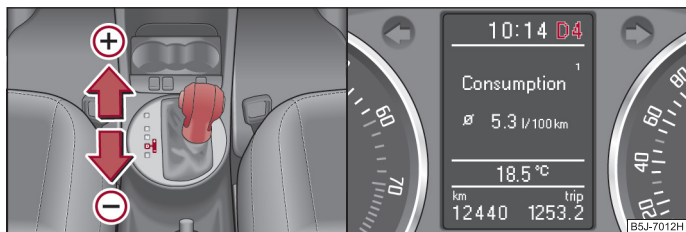

Fig. 101 Selector lever: manual shifting / large information display: manual shifting
The selector lever position you have engaged is indicated in the information display of the instrument cluster together with the engaged gear ⇒ fig. 101 on the right.
- One-touch forward of the selector lever (in the Tiptronic position) ⇒ fig. 101 (+).